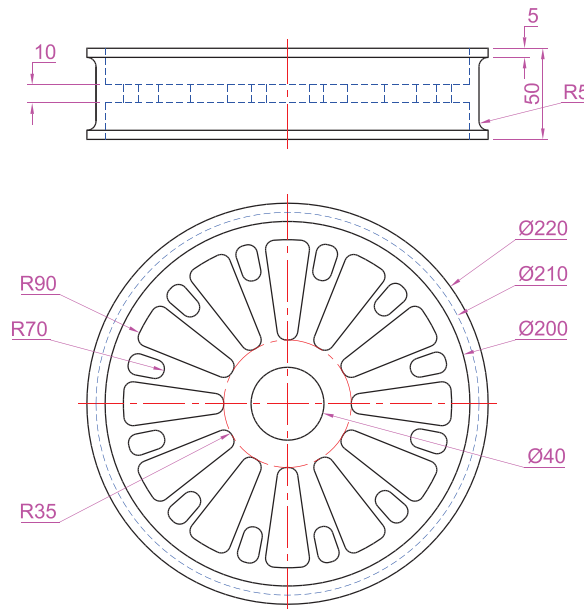

Fig. 18.13 Seventh example – Color faces tool – details of the 3D model
1. Construct a 3D model of the wheel to the sizes as shown in Fig. 18.13.